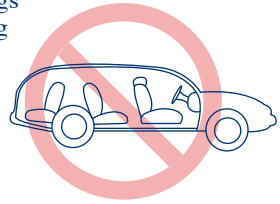

Fig. 14-1
- 2.2) **DO NOT** place this Safety Seat in any vehicle seat that faces to the rear or to either side of the vehicle. (Fig. 14-1 & 14-2).